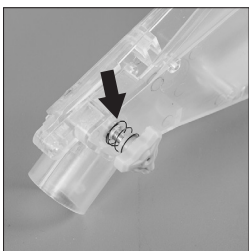

Fig. 20
- The guards locating pin should be positioned through the hole machined in the top edge of the riving knife (Fig. 20). Secure using the thumb screw, do not over tighten.